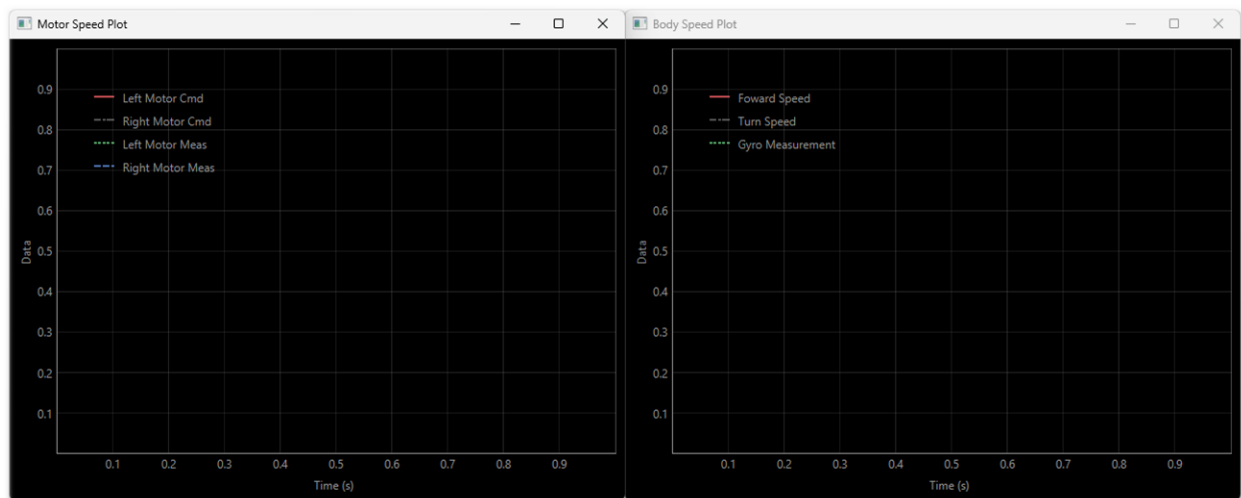

Figure. 2. QBot Speeds Scope
2. While armed, use the following joystick sticks to move wheels while monitoring the **Motor Speed Plot** and **Body Speed Plot** window as shown in Figure 2. Take note of the wheel speeds, as well as what motion it produces for the QBot Platform body. **Body Speed Plot** displays turn speed from the gyroscope and body speeds from the forward kinematics model which you will compete later.